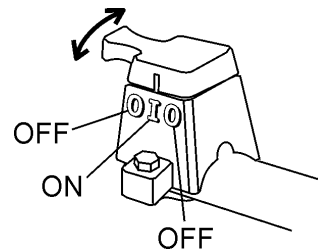

Figure 24. Engine Shutdown Switch
2. Turn the **engine Shutdown switch** (next to the handle lock) (Figure 24) to the "**OFF**" position. Shutting the engine off using this switch confirms that it is functioning properly.